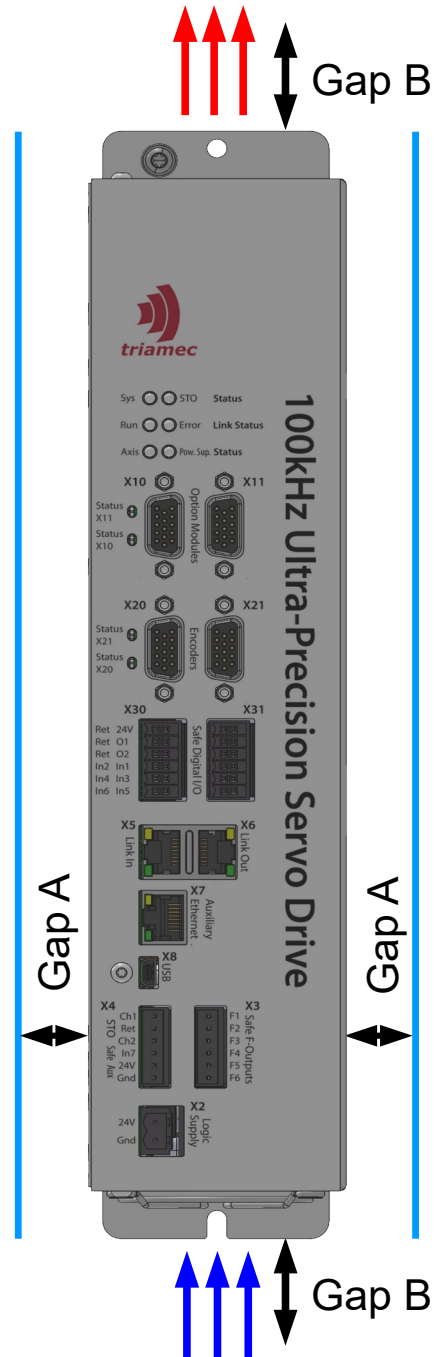

Figure 2: Mounting and cooling
- The servo drives shall be spaced with a gap (A) of 5mm laterally. Keep the required space of 50mm clear above and below the servo drive and do not cover air inlets and outlets with cables.
- Mount the servo drive preferably in vertical position as depicted in Figure 2 (horizontal position is allowed too).